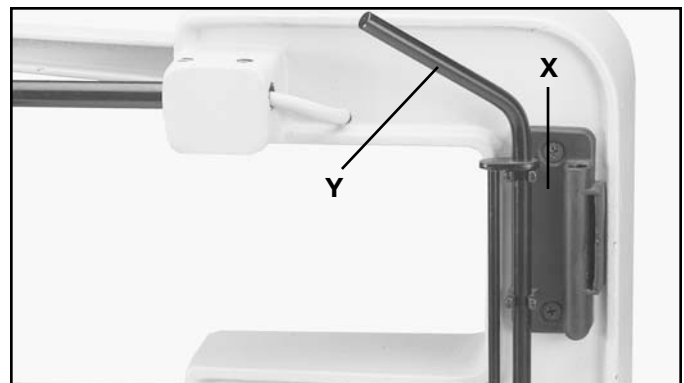

Fig. 13
11. The tool holder(X) Fig. 13, is used to hold the quick-set blade changing wrench (Y), (for removing blade from lower blade holder), allen wrench and extra blades.